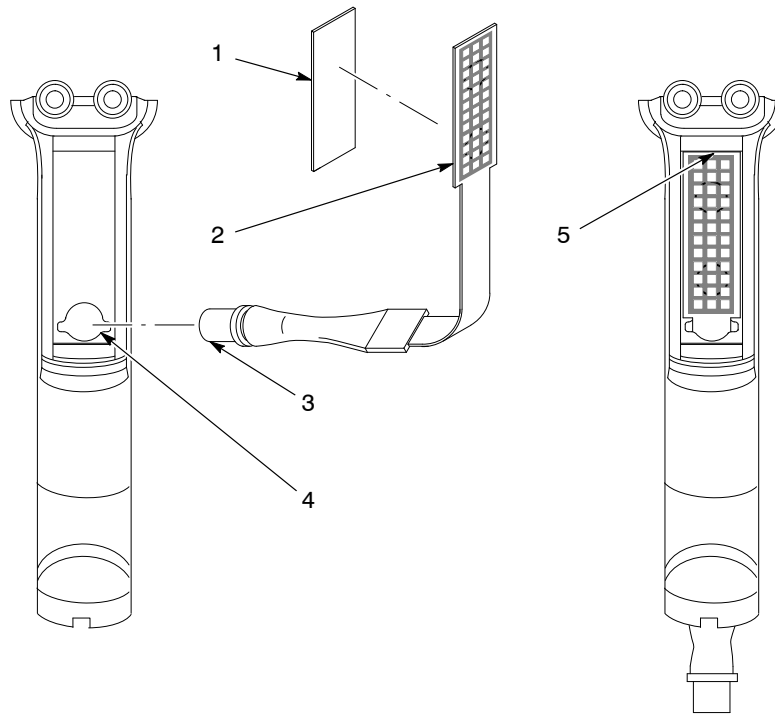

Figure 7-2 Trigger and Purge Switch Replacement
2. Remove the pivot screw (12) from the handle (22).
3. Remove the trigger (11) and purge button (10).
4. See Figure 7-2. Peel the trigger and purge switch (2) off of the handle (the switch is secured with adhesive).
- a. Slide the new switch connector (3) into the handle cut-out (4).
- d. Peel the adhesive backing (1) off the back of the new switch.
- e. Line up the top of the switch with the top of the switch cavity (5). Press the switch onto the handle. Make sure the switch is correctly aligned and securely attached to the handle.